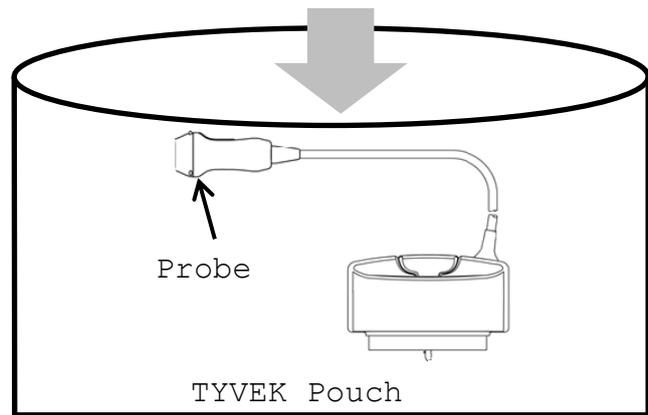

Fig. 4 Packaging in the pouch
- 2) Immerse the immersible part of the probe without connector into the diluted detergent solution (see Fig. 4). Wipe the immersible part of the probe under the surface of the detergent solution with a soft cloth to remove all visible soil. Be sure that all grooves of the probe are implemented during the cleaning process.
- 5) Rinse the probe with running tap water for 1 minute. (alternatively: immerse the immersible part of the probe in a tray filled with deionized water/tap water (see Fig. 4) for 5 min.)
- 3) Immerse the immersible part of the probe into the disinfectant (see Fig. 4). Set a clock to insure the recommended contact time which is 5 minutes.
- 4) Rinse the immersible part of the probe with deionized water for 1 minute. (alternatively: immerse the immersible part of the probe in a tray filled with deionized water (see Fig. 4) for 5 min.)